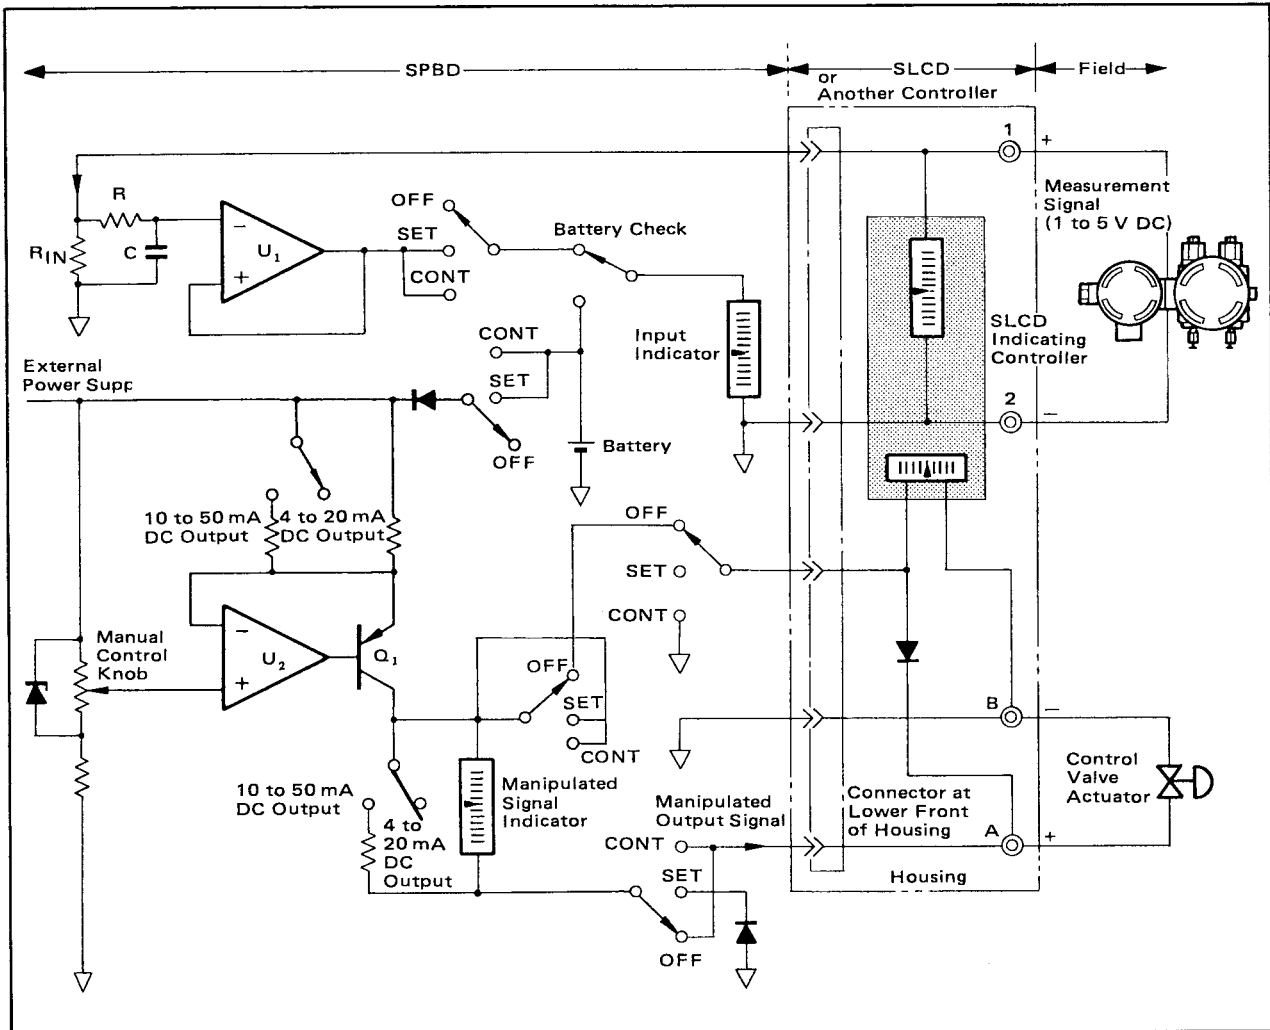

Figure 3-1. Functional Block Diagram of SPBD.
Figure 3-1 shows a functional block diagram of the SPBD. A process variable (input) is fed to the SPBD through the housing connector, from where it passes through a high-input impedance (R_{IN}), an input filter with (R), (C), a buffer amplifier (U_1) and switches, and is then indicated on the input indicator. The internal battery voltage is indicated on the input indicator by pressing the battery check button. The internal battery voltage is indicated on the input indicator by pressing the battery check button.